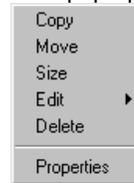

Fig. 2-145 Pop-up Menu
2. Click the right button of the mouse. A pop-up menu as shown in Fig. 2-145 appears.